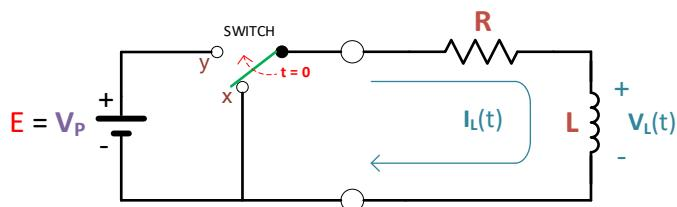

Figure 3.0a: R-L circuit with step voltage source
- (i) Referring to the **R-L** circuit shown in **Figure 3.0a**, assume the switch has been in position “x” long enough so that the inductor is fully discharged. At time  $t = 0$ , the switch is abruptly moved to position “y” connecting the circuit to the voltage source, thereby creating a step-input voltage of  $V_p$ . It stays in this position long enough for the inductor to be fully charged and beyond. Recall, since the current through the inductor does not change instantaneously, then  $I_L(t)$  becomes a more convenient variable to characterize the transient response in the “charging” phase than  $V_c(t)$ .
**Note 1:** As noted earlier, use of this type of square-wave is equivalent to sequentially “opening” and “closing” the switch in the circuit of **Figure 3.0a**. The period of the square-wave waveform specified would be much longer than the time constant,  $\tau$  of the circuit to allow the transient response of the circuit to reach its steady state between successive waveform transitions. The upper half of the waveform represents a **step-input** to invoke “charging” phase (*forced-response*), while the lower half of the waveform will represent “discharging” phase (*natural response*).